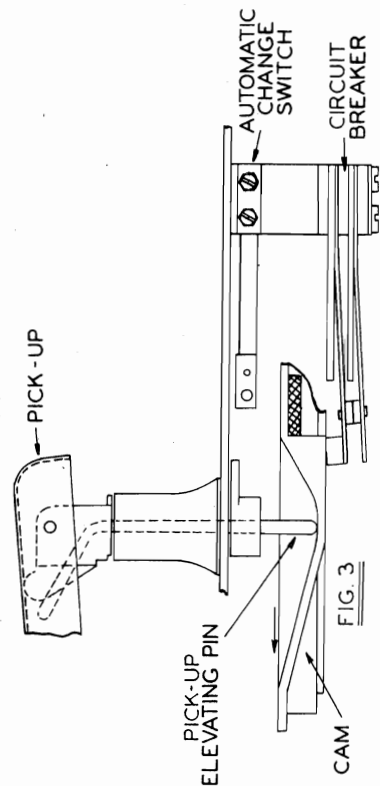

FIG. 3
7. The next few degrees of rotation causes the pick-up elevating pin to ride up on an inclined section of the cam, thereby elevating the pick-up and lifting the needle from the record which has just been played. (See Fig. 3).
11. A few more degrees of revolution, and the pick-up elevating pin rides down another incline, permitting the needle to settle gently on the first groove of the record. (Fig. 3).
13. During the last few degrees of revolution, the circuit breaker switch has again been closed, as its fibre stud rides up an incline on the lower surface of the cam. (Fig. 3). This switch must be closed at all times except when the instrument is going through a changing cycle, otherwise, it would be impossible to start a new changing cycle automatically.